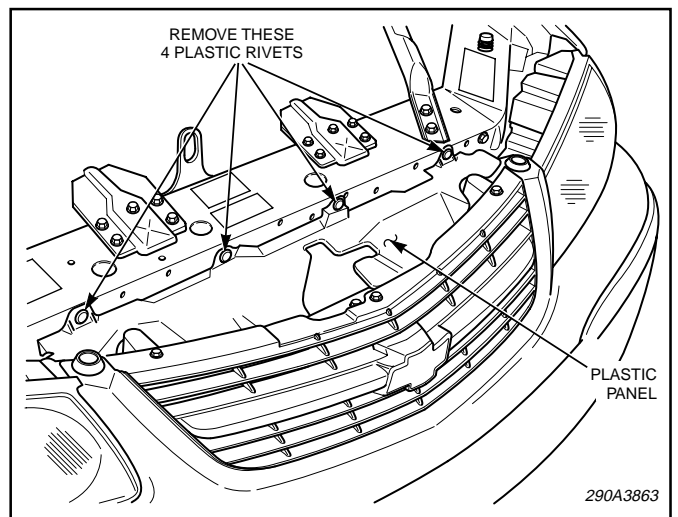

Figure 2.
2. Raise the vehicle hood. See figure 2. Locate the plastic panel between the radiator crossbar and the grille.
3. Remove and retain the three plastic rivets. See figure 2. Remove the plastic panel.
4. See figure 2. Locate the driver-side motor mount bracket.